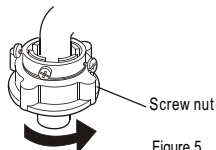

Figure 5
4. Take off the nameplate. Twist the fastening nut as per the indication of the figure to seal up the exit end face of the faucet. See to Figure 5.